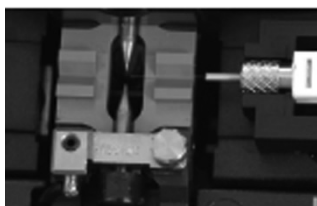
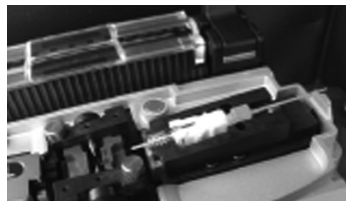

Figure 6
Figure 7
**4. Insert the holder into the right hand side of the splicer (Figure 6), being sure that the fiber stub lays properly into the v-groove block of the splicer (Figure 7). Use the fiber positioning tool to help align the fiber in the v-groove.**